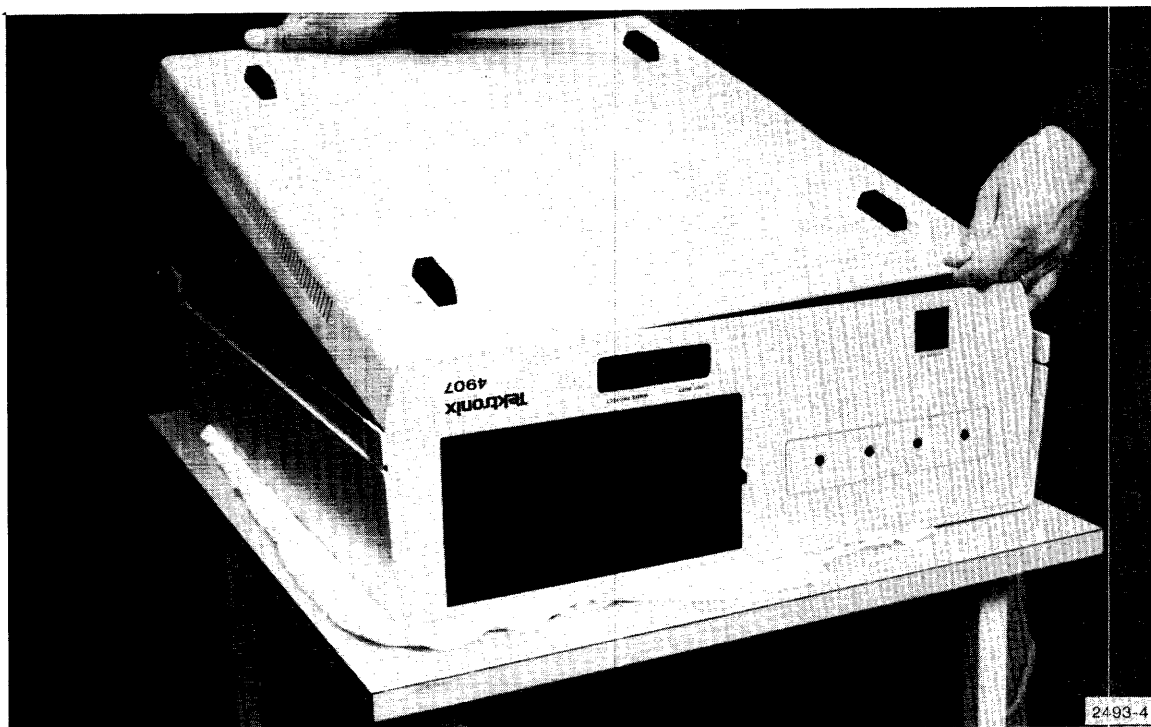

Figure 3-1. Removing base of drive cabinet.
3. Remove ten bottom screws then lift off base (Figure 3-1). Do not remove feet.